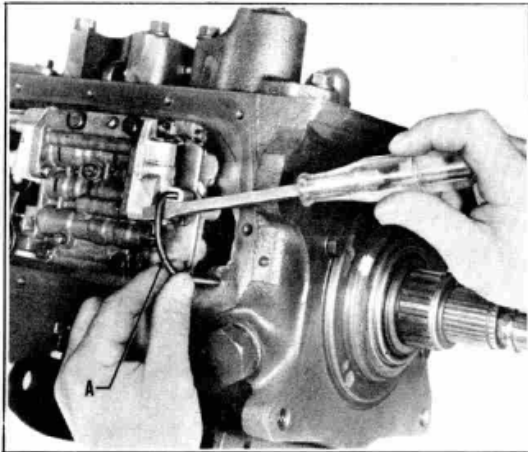
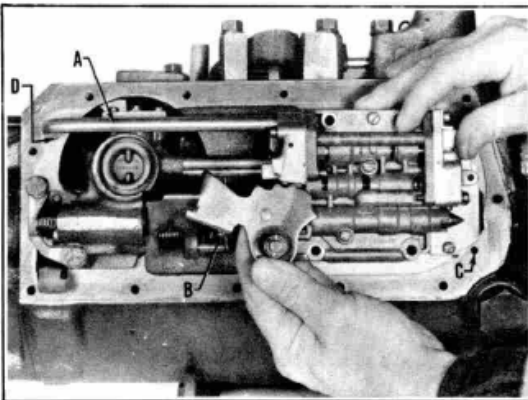

Figure 4
Figure 5
a) A front servo exhaust valve assembly and spacer has been added at the front of the outer valve body. A passage has been drilled in the front servo exhaust valve body for the pressure regulator reverse pipe (A), Figure 4.
The H-51 transmission case has two passages added. One passage, located at the front upper left hand of the case, is for the pressure regulator reverse oil pipe, Figure 4. The other passage at the rear lower end of the case is for the reverse clutch oil pipe Figure 5.
5. Using a screwdriver, remove the pressure regulator reverse oil pipe (A), Figure 4. (Do not bend pipe during this operation.)
10. Work control valve assembly toward the front of the case sufficiently to remove the governor pipes and the reverse clutch pipe, Figure 5.
11. Remove the reverse clutch oil pipe from the transmission case. See Figure 5.